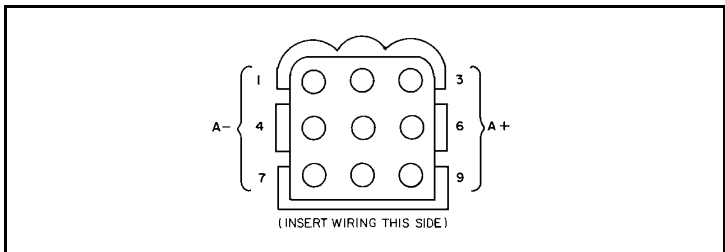

Figure 10 - Rear View of Empty Connector Housing
2. Insert the orange and red leads into pins 3, 6, or 9 of the connector housing. Insert the black lead into pins 1, 4, or 7. Figure 10 provides an illustration of the empty connector housing which plugs into J1 of the power supply.